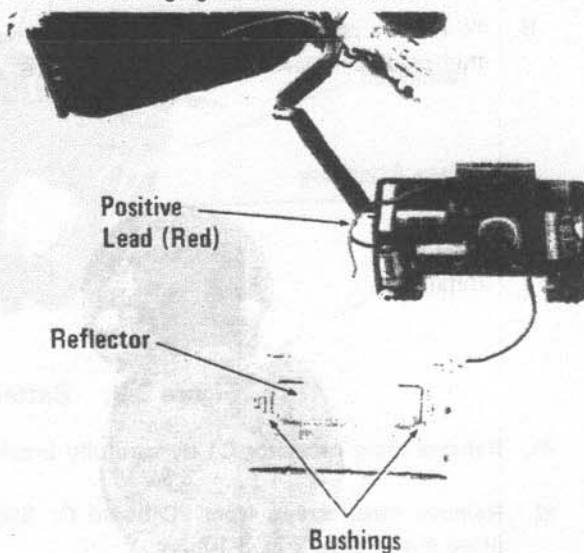

Figure 3-12. Reflector Removal
- A. To remove only the reflector, unsolder the red, positive lead from the flashtube, and gently slip the reflector assembly off the flashtube. Fig. 3-12.
3.3.1 POSITIONING. As mentioned above, flashtube removal and replacement should be performed with extreme care to avoid cracking the seals around the metal electrodes. The points where the electrodes enter the glass envelope are the most sensitive areas of the flashtube. Bending the electrodes will cause excessive strain between the glass and the electrodes. The flashtube should be positioned within 2 soft rubber bushings (Figure 3-12) when mounted in the reflector assembly with the leads exerting minimum pressure on the electrodes. Any contact between the flashtube and other components should be avoided to prevent damaging or shorting the electrodes.